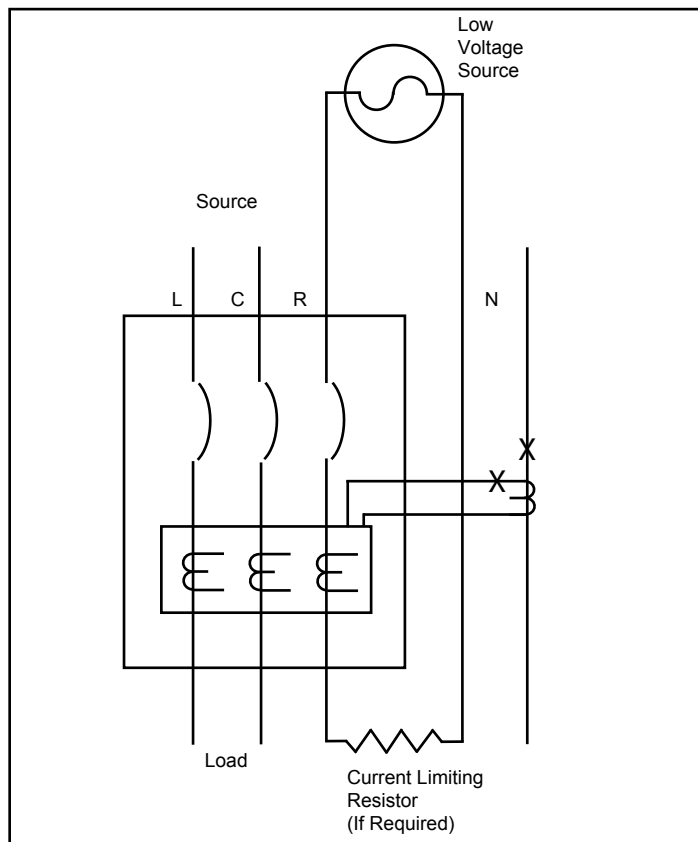

Figure 7-1a. Connections for Ground Fault Trip Test.
7.3.4 Using a low voltage (0-24 V), high current, AC source, apply a test current of 125% of the ground fault pick-up setting through one phase of the circuit breaker, as shown in Figure 7-1a or 7-1d (4-pole). This should cause the breaker to trip in less than one second, and if an alarm indicator is supplied, it should operate. Reset the breaker and the alarm indicator. Repeat the test on the other two phases.